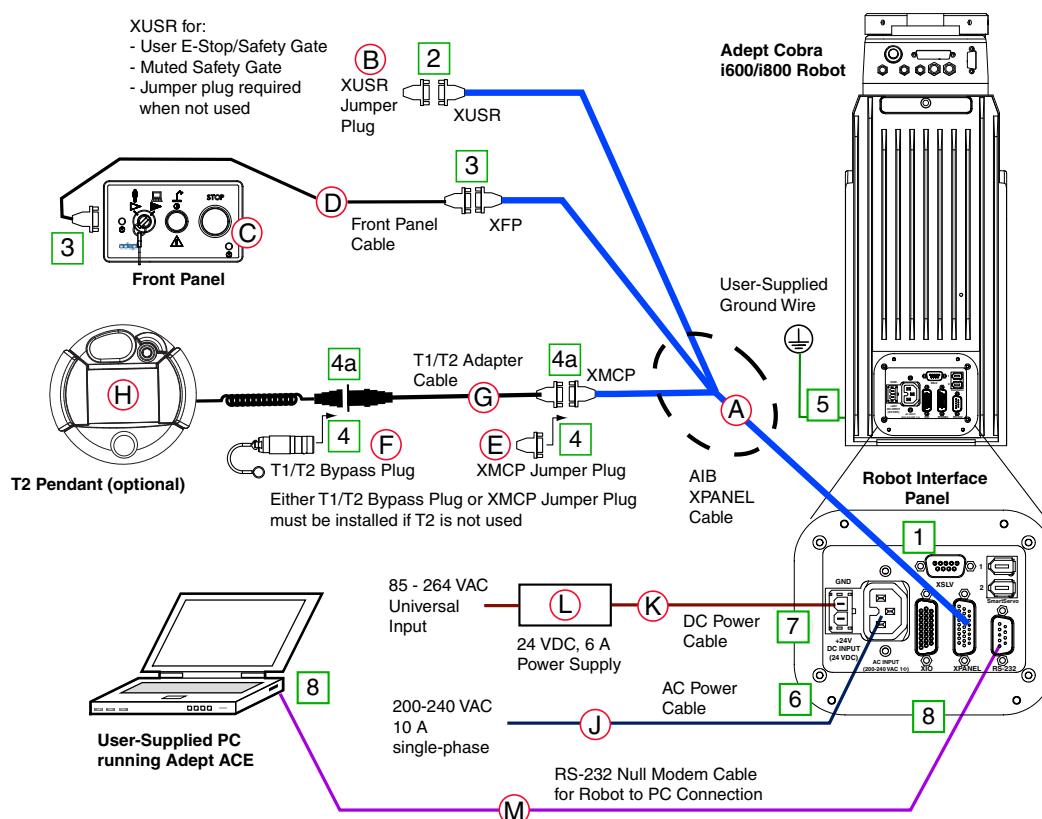

Figure 3-1. iCobra System Cable Diagram
2. Plug the single end of the AIB XPANEL cable into the XPANEL connector on the robot interface panel. See Figure 3-1 on page 24. The AIB XPANEL cable has these connectors on the opposite ends: XUSR, XFP, and XMCP.
See Figure 3-1 on page 24 when installing these items.
2. Connect one end of the serial cable to the RS-232 connector on the robot interface panel. See Figure 3-1 on page 24.